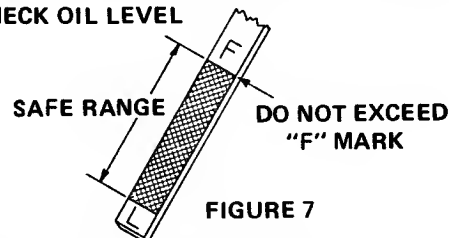
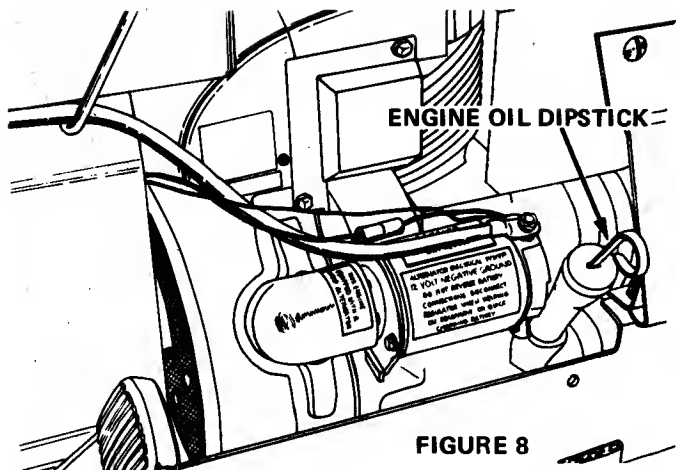

FIGURE 7
FIGURE 8
Check the engine crankcase oil level daily or every 5 hours operation. It is essential that the oil level be maintained in the "safe" operating range as shown in Figure 7 at all times or serious engine damage could result.
To check the oil, stop engine and wipe all dirt and dust from around the dip stick, Figure 8. Pull dip stick out, wipe off the oil, re-insert dip stick and push it down tight. Pull the dip stick out and observe the oil level. Add sufficient oil of the proper viscosity to bring the oil up to the "fill" (F) mark, see Figure 7. Be sure tractor is level when checking oil.